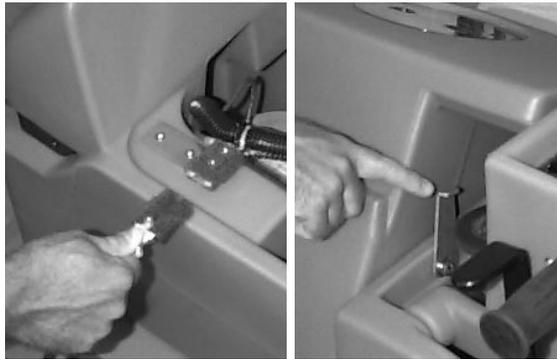

FIG. 22
5. Plug charger DC output connector to battery connector located near battery compartment. Flip up tank support stand and rest tank on stand (Figure 22).